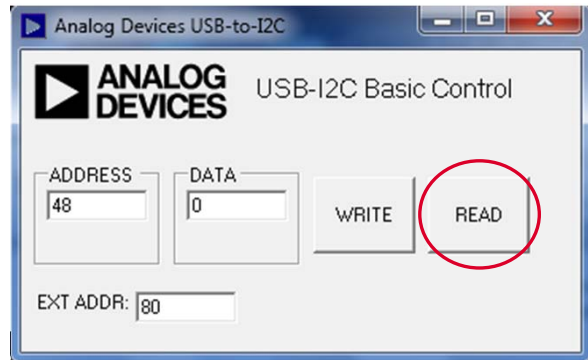

Figure 8. **READ** Button
- c. Write the register addresses in the dialog box, as shown in Figure 8, and then click **READ**.